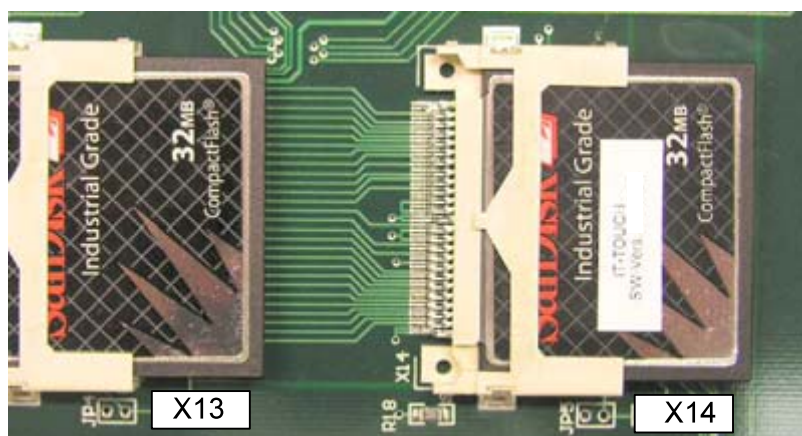

Fig. 17:
- Plug the old Flash card into the X13 connector (Fig. 17 / p. 33).
- Plug the new Flash card into the X14 connector (Fig. 17 / p. 33).
- Plug the backup Flash card into the X13 connector (Fig. 17 / p. 33).